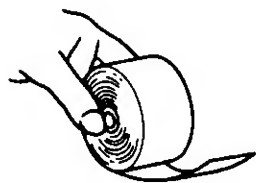

Fig. 2
3. Hold a new paper roll in the direction as shown in Fig. 2 so that the paper end will be fed from the bottom.